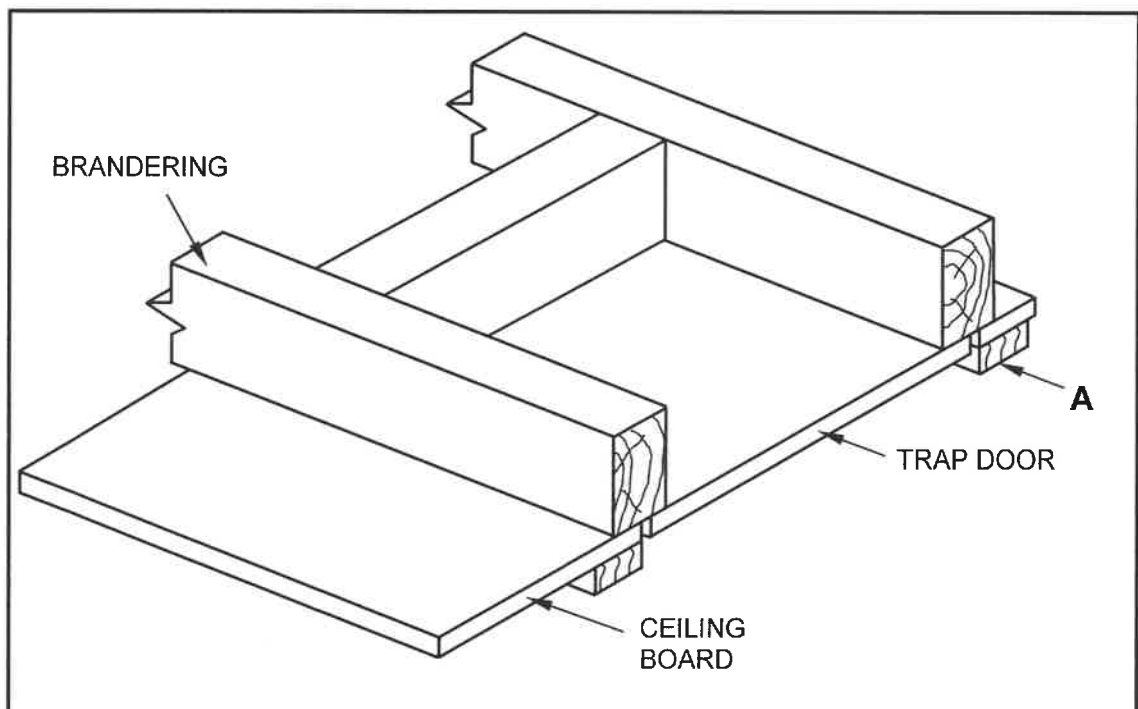

FIGURE 4.3
- 4.3 FIGURE 4.3 below shows the INCORRECT constructional detail of a part of a conventional trap door construction.